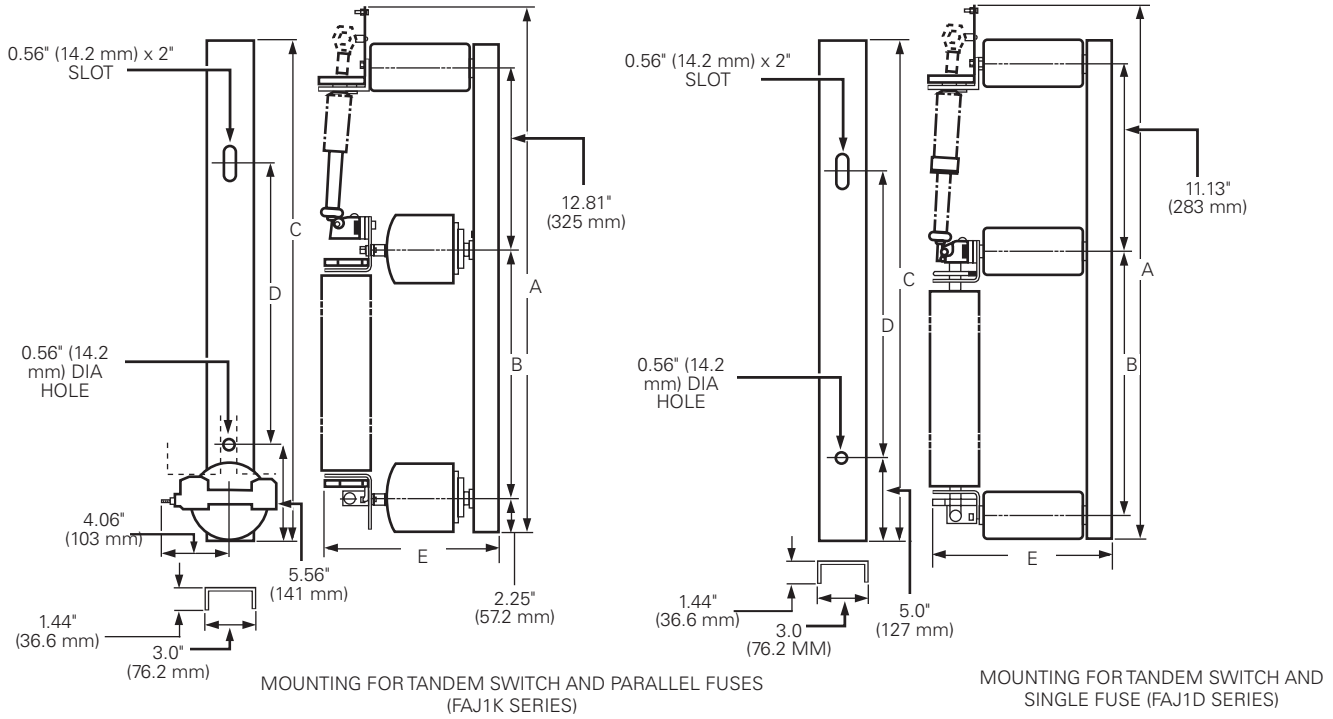

Figure 4. Tandem switch and single or parallel fuse mountings, FAJ1K and FAJ1D series (refer to Table 4 for dimensions).
8.3	95	1	5	FAJ3K1	36.50 (927)	17.88 (454)	33.38 (848)	17.5 (445)
15.5	95	1	6	FAJ3K2	39.31 (999)	20.69 (526)	36.19 (919)	20.0 (508)
** Refer to Figures 4 and 5 for dimensional drawing.